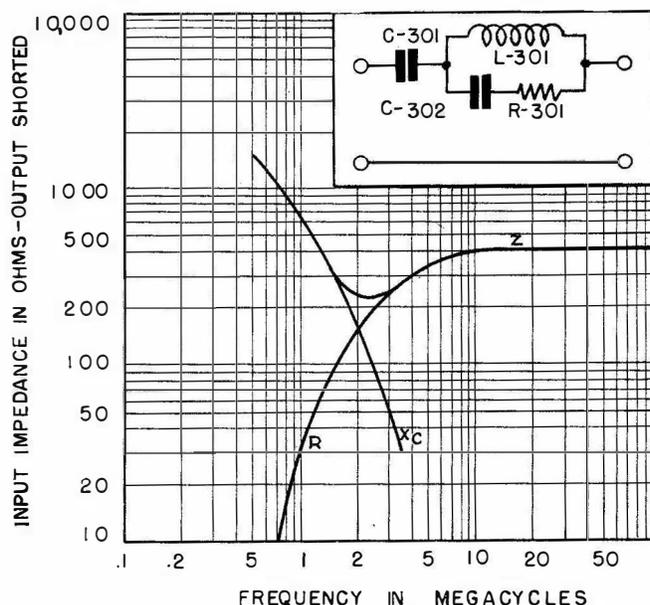

Figure 4-18—Schematic Diagram of the Dummy Antenna Unit (Type CFD-66017) with Input Impedance-Frequency Curve
b. The schematic diagram and resultant electrical characteristics for the Dummy Antenna Unit are given in Figure 4-18. The circuit consists of a 200 micromicrofarad capacitor (C-301) in series with a series-parallel